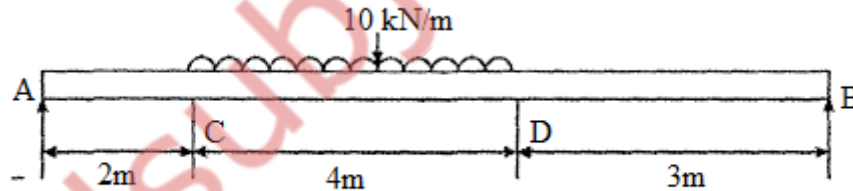

Fig.1
7. Draw the shear force and bending moment diagrams for the beam shown in Fig. 1. Also calculate the maximum bending moment.